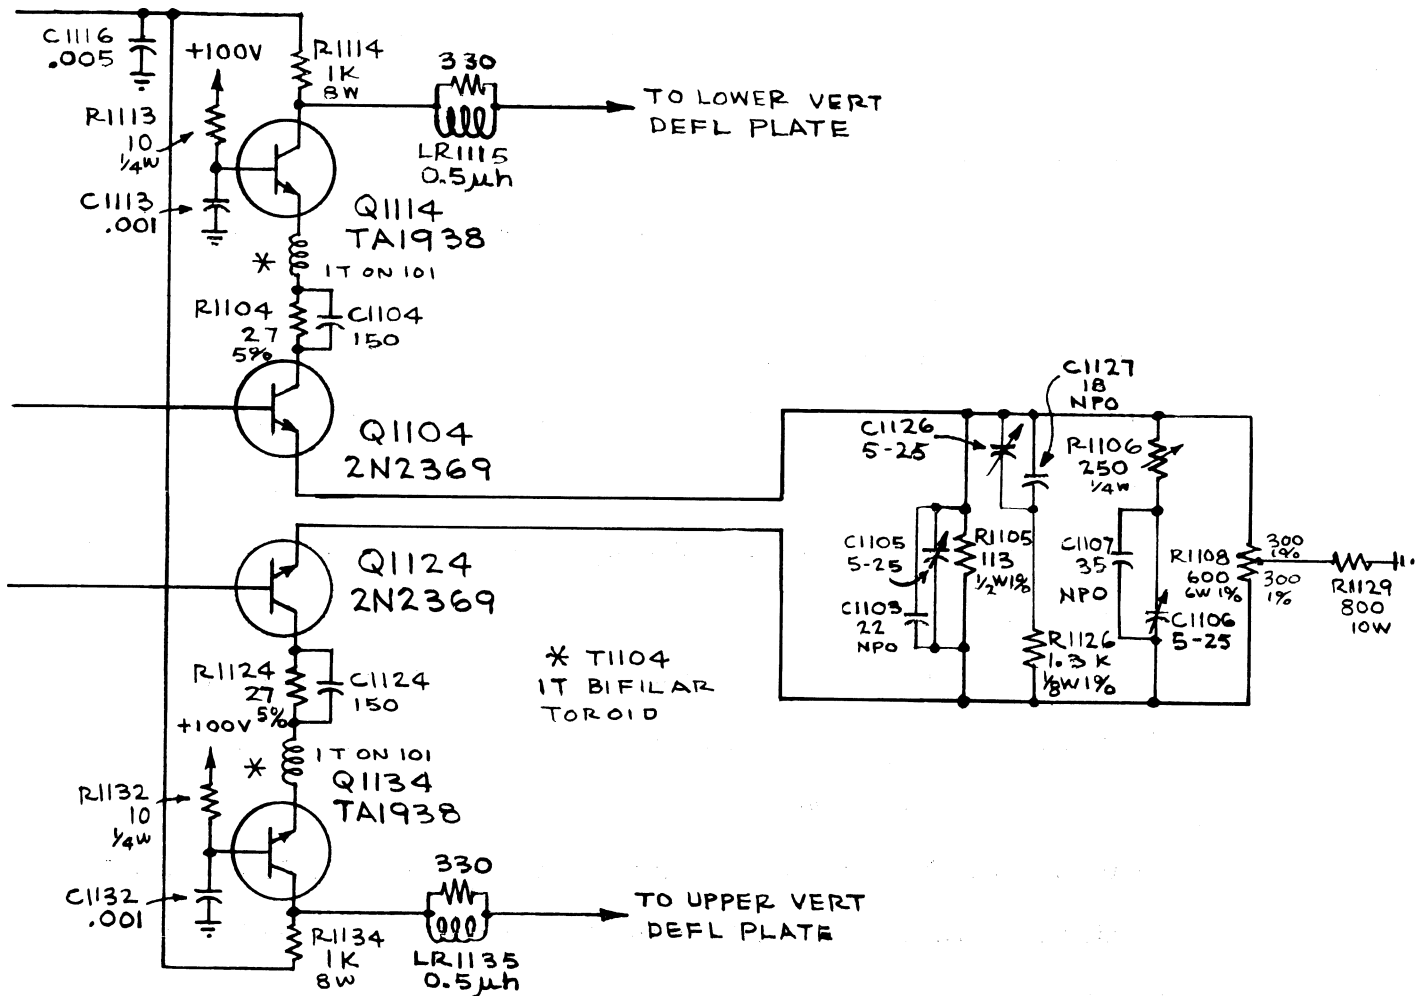

Figure 1-6
6. Fifth (output) stage (Q1104, Q1114, Q1124, Q1134) (Fig. 1-6)